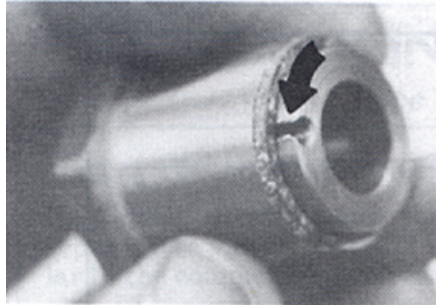
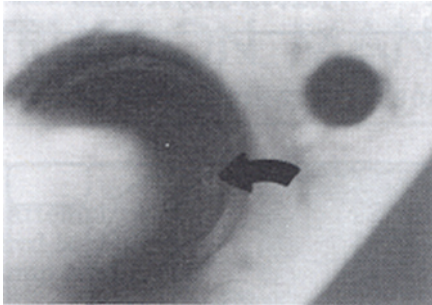

Figure 9. Hole in gland (step 1)
Figure 10. End of closing spring (step 1)
1. Install a new gasket (key 26) on the step at the back of the gland (key 27). Note the small hole on the back of the gland, Figure 9. This hole must engage the end of the closing spring (key 25) when the gland is installed in the body. Look in the body and note the position of the end of the closing spring, Figure 10.